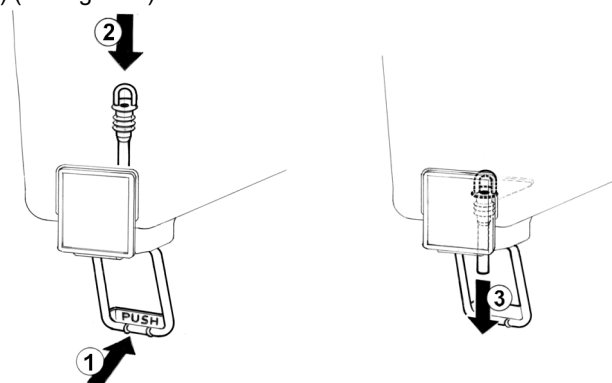

figure 4
2 Pinch tube faucet: push the dispensing handle (1) and insert the pinch tube into its vertical seat in the bowl bottom (2). Lightly pull the pinch tube end downwards til it is well arranged (3) (see figure 4).